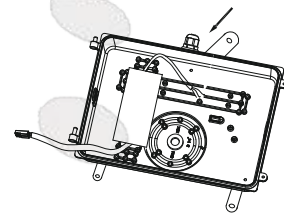

Figure 2
2. Choose an appropriate connection hole according to your requirements. Loosen the plug, and then tie the waterproof connector from the accessories; rotate the three mounting kits to the proper angle. (Figure2)